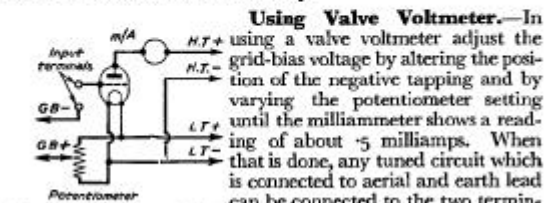

Fig. 84.—The circuit arrangement of a valve voltmeter which is suitable for comparing the efficiency of various coils.
**Testing Coils.**—It is sometimes interesting to compare the efficiencies of various types of tuning coil and in this case a valve voltmeter should be used. This consists of a circuit comprising a single valve, arranged for anode bend rectification and having a milliammeter connected in its anode circuit. A simple arrangement of such a device is shown in Fig. 84. In this case, the milliammeter should have a maximum deflection of 1 milliamp.